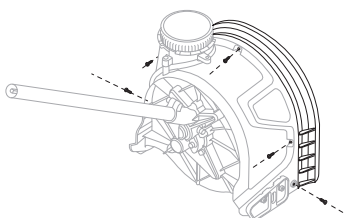

Fig. 2B
3. Insert the hood into the groove and lock it using the five screws. (Fig. 2B)